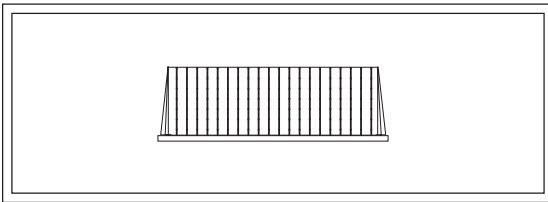

FIGURE 3-1: DATASONDE 4 LID
Figures 3-1 to 3-6: Miscellaneous parts
- 1 DS4 lid (see figure 3-1, on the previous pages)